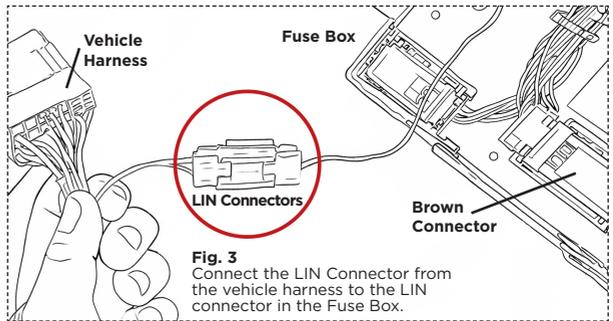

Fig. 3
- Connect the grey LIN connector on the adapter harness to the matching LIN connector on the head unit wiring loom. (See Fig. 3)